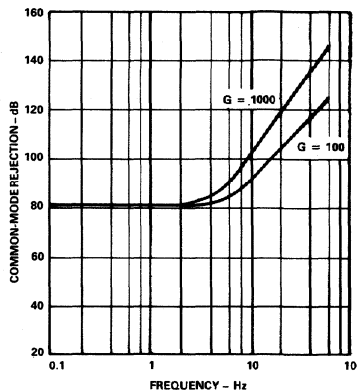

Figure 8. Common-Mode Rejection vs. Frequency
**Common-Mode Rejection:** CMR as a function of frequency is shown in Figure 8. Test conditions are a 3V p-p common-mode signal and 1k $\Omega$  source imbalance. The CMR improves with increasing gain. Note that the 4Hz filter enhances the CMR performance above the corner frequency by attenuating the normal-mode signal at 60dB/decade.